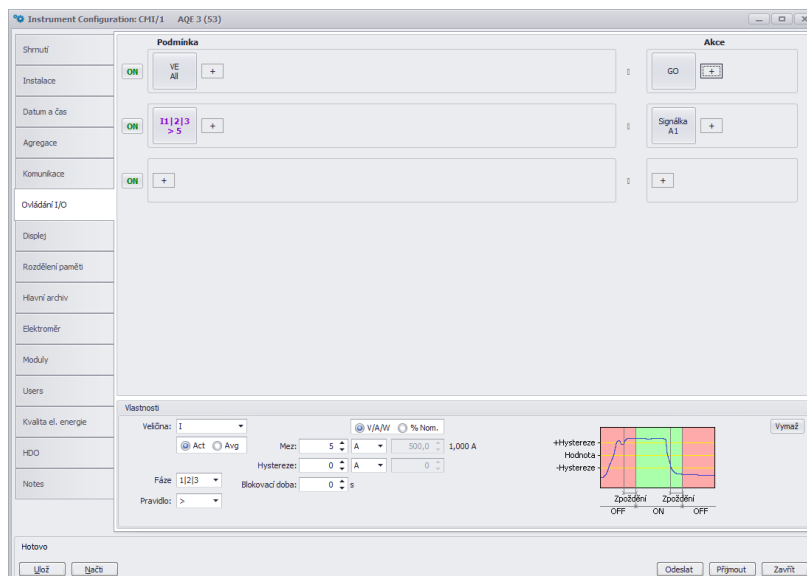

Figure 15: ENVIS.Daq - configuration of programmable inputs and outputs behavior.
2.4.5 I/O Management (fig. 15)